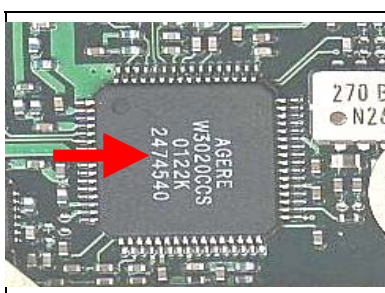

Fig. 2.5
- If the U507 has been replaced beforehand and the fault still remains, please replace U504. (Fig2.5)